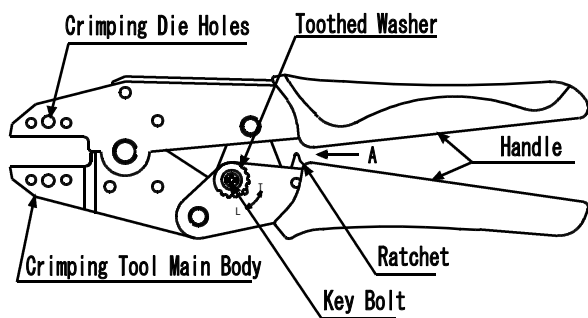

Fig 1: Crimping Tool(TC-1)
- (3) Insert bolts in the crimping die holes (**Fig 1**) and hand tighten the screws.
- (4) Squeeze the handles so that the crimping die engages. Without releasing the handles, tighten the bolts with a screw driver.
- (5) Squeeze the handles to make sure that the crimping tool is working properly.